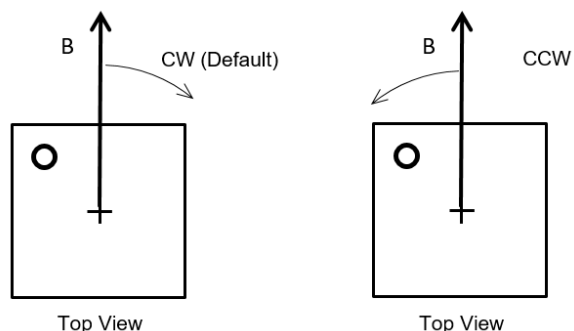

Figure 18: Positive Rotation Direction of the Magnetic Field
By default, when looking at the top of the package, the angle increases while the magnetic field rotates clockwise (CW) (see Figure 18).